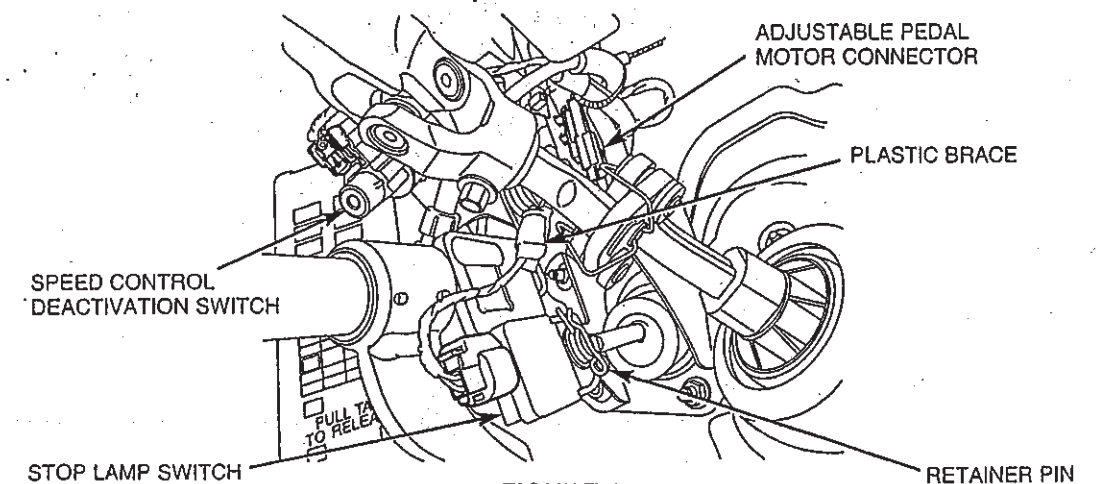

FIGURE 1
2. Position the stop lamp switch harness assembly down the left side of the steering column for easier access to the repair area as follows: (refer to Figure 1).